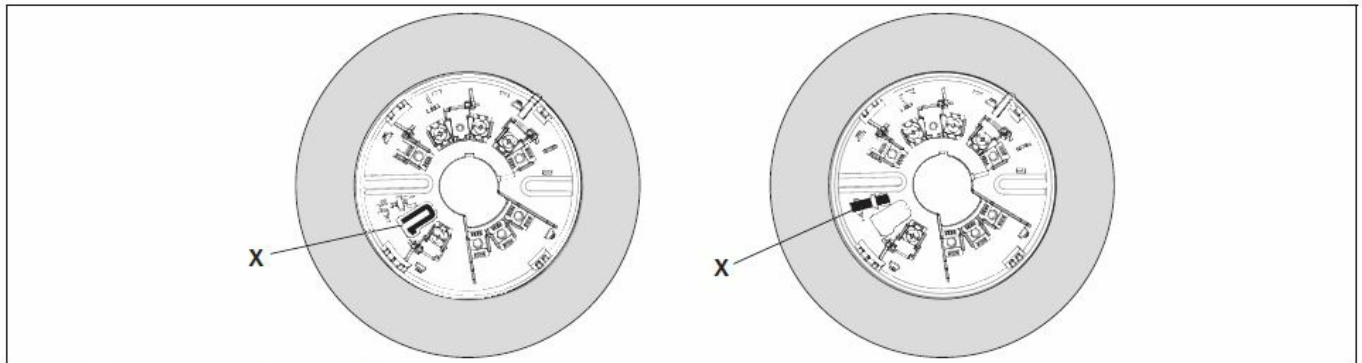

Figure 3.2 Activating the Locking Mechanism
The detector bases are supplied with a snap-off locking bar (X) as part of the base molding to prevent malicious removal of the detector. The locking mechanism is selectable and is activated by shifting the U-shaped locking bar (X) into the position as shown in Figure 3.2.